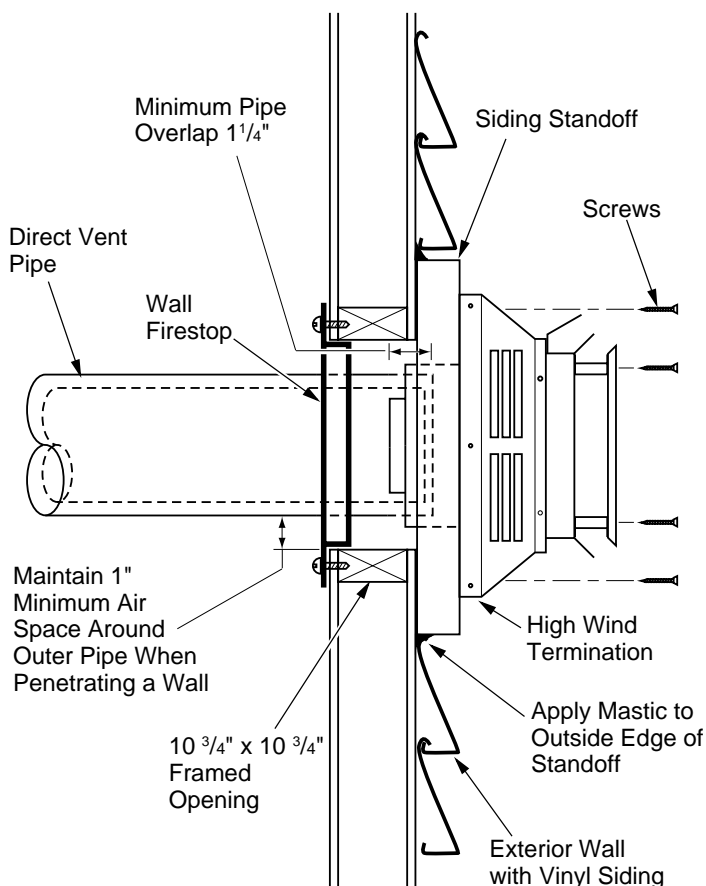

Figure 13 - Typical Horizontal Termination Cap Mounting with Additional Siding Standoff Installed
9. **Combustible Exterior Wall Only:** Slide wall firestop against interior wall surface and attach with screws provided. See Figure 13 for horizontal termination details.